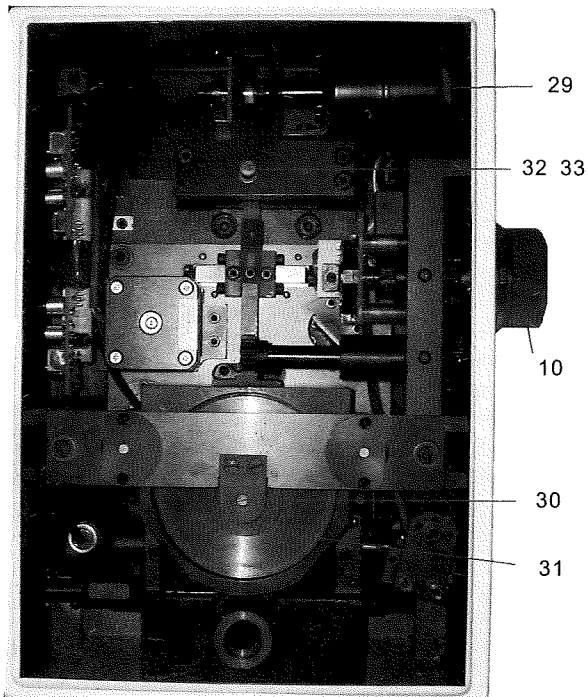

Fig.1 Removal of Transport
2.3 See Fig. 1. Loosen the fixing screw (30) and take down the provision disk (31).
Refer to Figs. 1 and 2. It is composed of program-controlled motor drive, lever and weights. The load-change hand wheel (10) is used for selecting test force. When the load-change hand wheel (10) is turned, the number displayed on the test force window is changed.